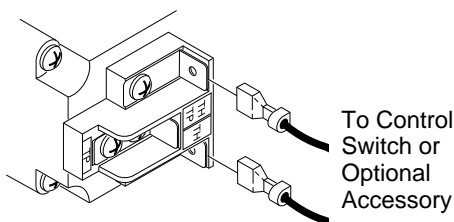

Figure 45 - Control Valve Terminals
3. Disconnect wires from THTP and TH on control valve that lead to the switch (see Figure 45). Discard switch plate, screws, and nuts.
7. Connect the wires from the receiver to the valve at TH and THTP (see Figure 45).